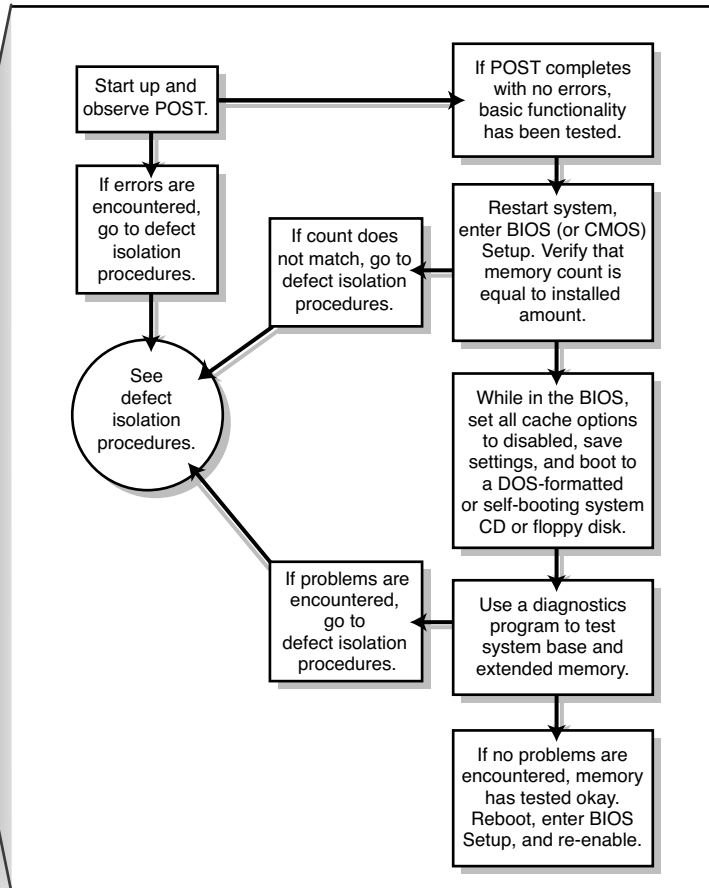

Figure 6.21 Testing and troubleshooting memory.
The following steps enable you to effectively test and troubleshoot your system RAM. Figure 6.21 provides a boiled-down procedure to help you step through the process quickly.
1. Restart the system and enter the BIOS Setup. Under a menu usually called Advanced or Chipset Setup might be memory timing parameters. Select BIOS or Setup defaults, which are usually the slowest settings. If the memory timings have been manually set, as shown in Figure 6.21, reset the memory configuration to By SPD.